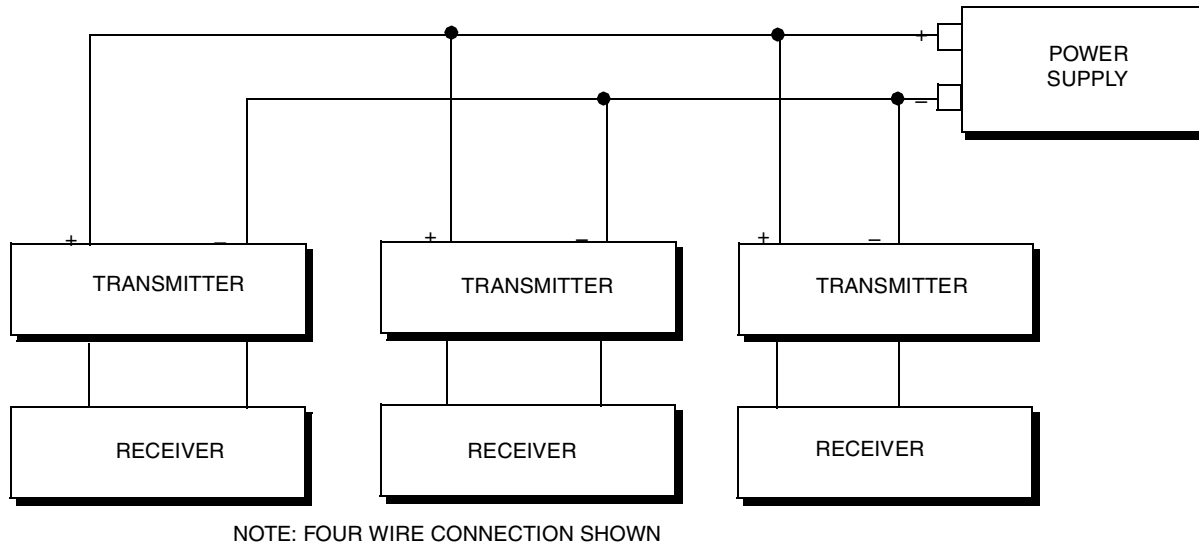

Figure 25. Wiring Several Transmitters to a Common Power Supply
8. If wiring additional transmitters to the same power supply, repeat Steps 1 through 7 for each additional transmitter. The setup with multiple transmitters connected to a single power supply is shown in Figure 25.